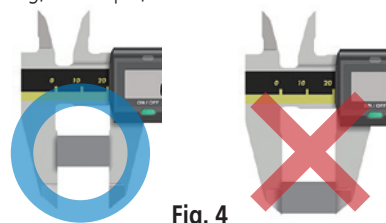

Fig. 4
1. Make sure to apply constant force during measurement, and measure an object as close as possible to the root of the jaws. It is better to avoid measurement with the tip of the jaws to avoid Abbe error. (**Fig. 4**)